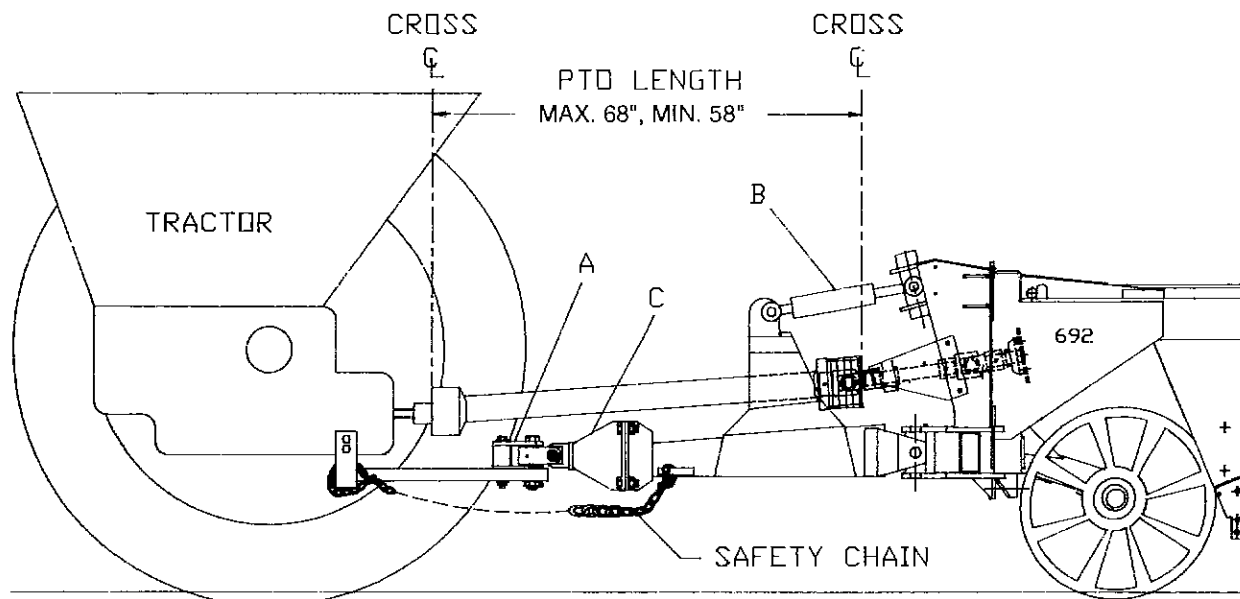

FIGURE 3 - HITCHING TO TRACTOR
- Proper PTO installation (see figure 3).
Position tractor near harvester hitch, attach lift cylinder hoses to the tractor outlets, activate cylinder and lift harvester hitch above tractor hitch (see figure 3).
Set tractor drawbar at 16' from end of PTO to center of drawbar attaching hole for  $1\frac{3}{8}$ ' PTOs and at 20" for  $1\frac{3}{4}$ " PTOs. The driveline when hooked to tractor should measure between 58" and 68" between centers of universal crosses (see figure 3).
2. Attach Safety Chain from tractor to tongue of harvester (see figure 3, page 9).
8. Harvester is equipped with a SMV emblem, two (2) red reflectors mounted on rear and two (2) amber reflectors mounted on left side. Keep them clean and visible at all times.
Be sure tractor drawbar is set so that PTO driveline runs at the length specified (see figure 3, page 9).